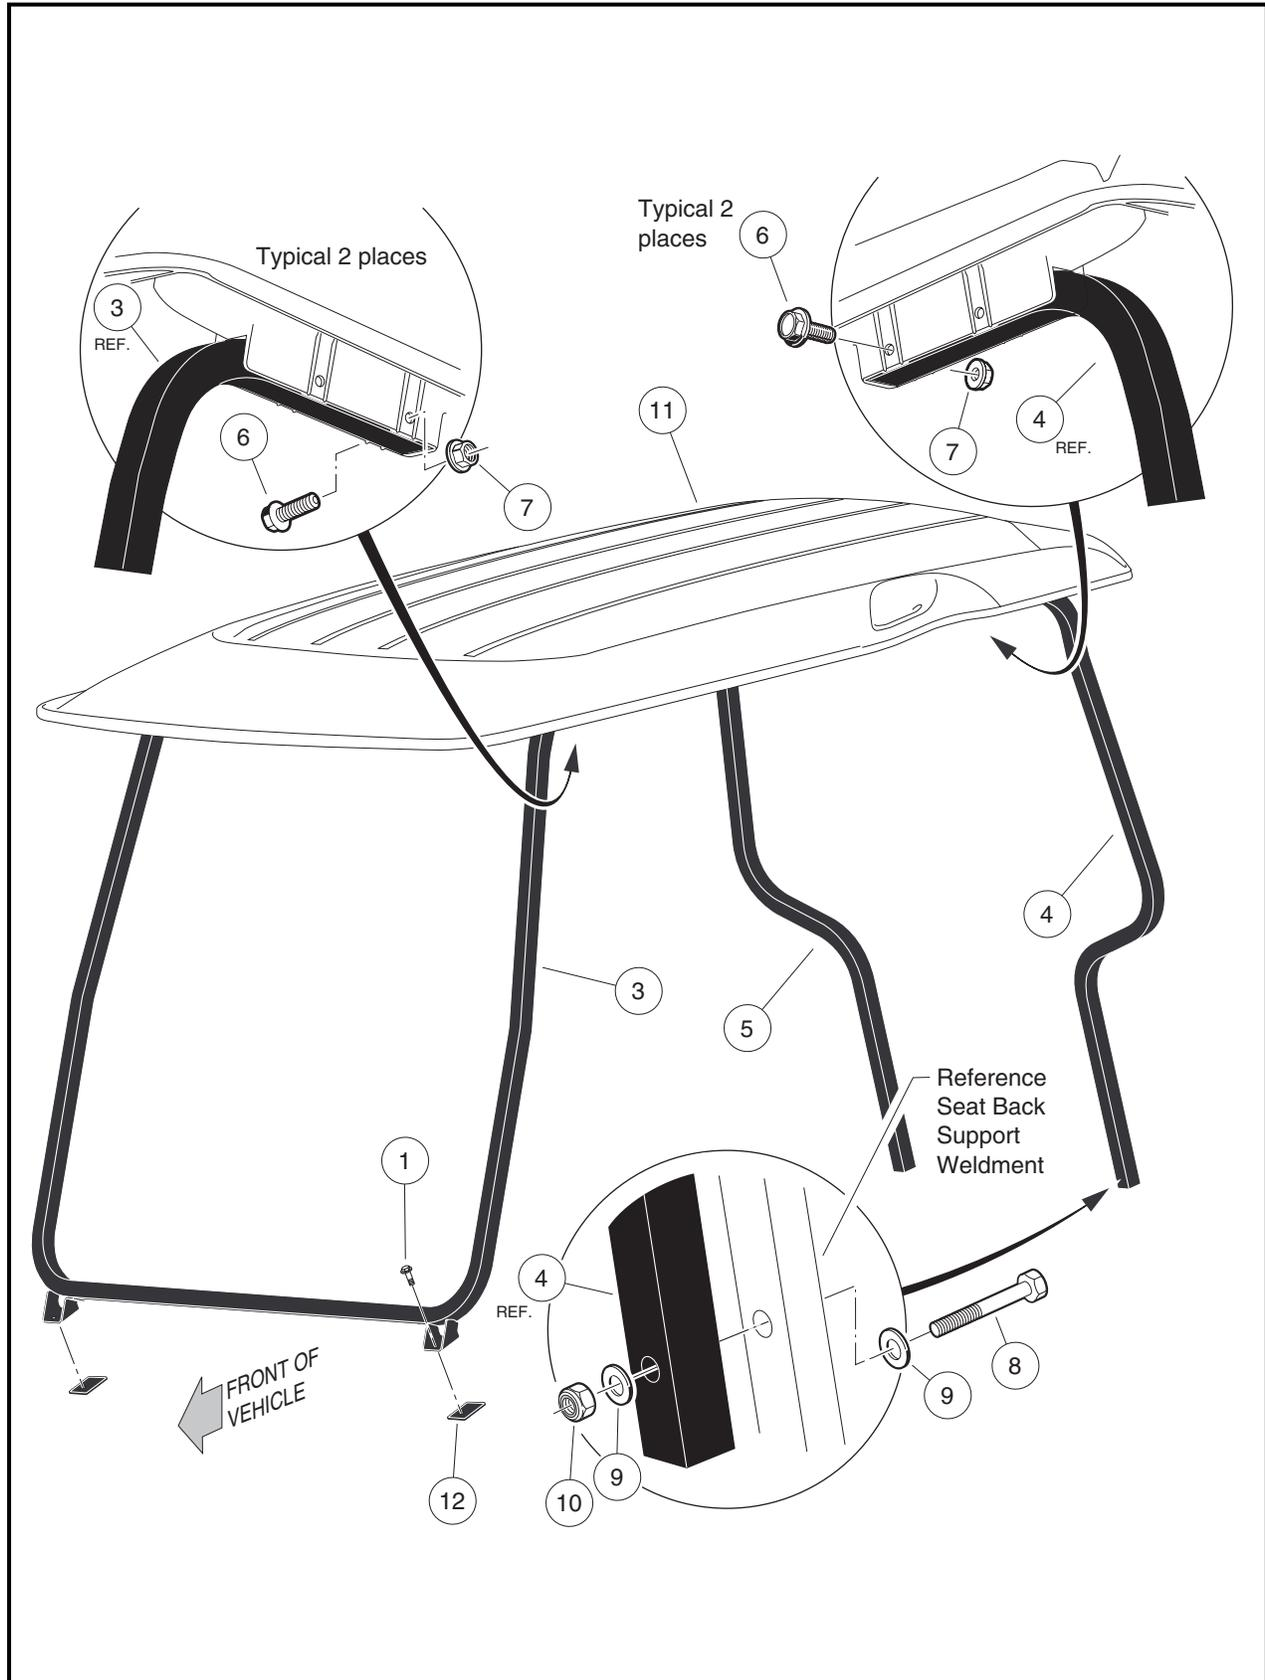

Figure 4-1 Canopy Assembly
1. Remove the eight nuts (7) and eight washer-head screws (6) from the holes in each channel and brace of the canopy as shown. Remove the canopy (11) from the windshield frame (3) and rear braces (4 and 5) (**Figure 4-1, Page 4-4**).
2. Remove the nylon lock nuts (10) and four flat washers (9) from the bottom end of the driver and passenger side rear braces (4 and 5). Remove the four hex-head cap screws (8) and four flat washers (9) and remove the rear braces from the front side of the seat back supports.
3. Remove the two washer-head screws (1) securing the windshield frame (3) to the front body of the vehicle.
4. Remove the pads (12) from under the windshield frame mounting bracket on the front body.
1. Place the pads (12) on the front body and under the windshield frame mounting brackets (**Figure 4-1, Page 4-4**). Align the slots on the pads with the slots in the mounting brackets.
2. Secure the windshield frame (3) to the front body of the vehicle with two washer-head screws (1). Tighten the screws to 45 in-lb (5.1 N·m).
3. Mount bottom end of the driver and passenger side rear braces (4 and 5) to the front side of the seat back supports with four hex-head cap screws (8) and four flat washers (9). Secure with four flat washers (9) and four nylon lock nuts (10). Tighten the hardware to 45 in-lb (5.1 N·m).
4. Place the canopy (11) onto the windshield frame (3) and braces (4 and 5). Insert the upper ends of the frame and braces into the channels in the underside of the canopy. Insert eight washer-head screws (6) through the holes in each channel and brace as shown. Secure the canopy with eight nuts (7). Tighten the screws to 45 in-lb (5.1 N·m).
3. Remove the eight nuts (7) and eight washer-head screws (6) from the holes in each channel and brace of the canopy as shown. Remove the canopy (11) from the windshield frame (3) and rear braces (4 and 5) (**Figure 4-1, Page 4-4**).
4. Remove the two washer-head screws (1) securing the windshield frame (3) to the front body of the vehicle (**Figure 4-1, Page 4-4**).
5. Remove the pads (12) from under the windshield frame mounting bracket on the front body.
5. Place the pads (12) on the front body and under the windshield frame mounting brackets (**Figure 4-1, Page 4-4**). Align the slots on the pads with the slots in the mounting brackets.
6. Secure the windshield frame (3) to the front body of the vehicle with the two washer-head screws (16) removed in step 4 (**Figure 4-1, Page 4-4**). Tighten the screws to 45 in-lb (5.1 N-m).
7. Place the canopy (11) onto the windshield frame (3) and rear braces (4 and 5). Insert the upper ends of the frame and braces into the channels in the underside of the canopy. Insert eight washer-head screws (6) through the holes in each channel and brace as shown. Secure the canopy with eight nuts (7) (**Figure 4-1, Page 4-4**). Tighten the screws to 45 in-lb (5.1 N-m).
8. Install push type blind rivets (5) that secure lower part of front body to frame.
9. Install front bumper onto vehicle with screws (3) and lock nuts (4). Tighten to 65 in-lb (7.3 N-m).